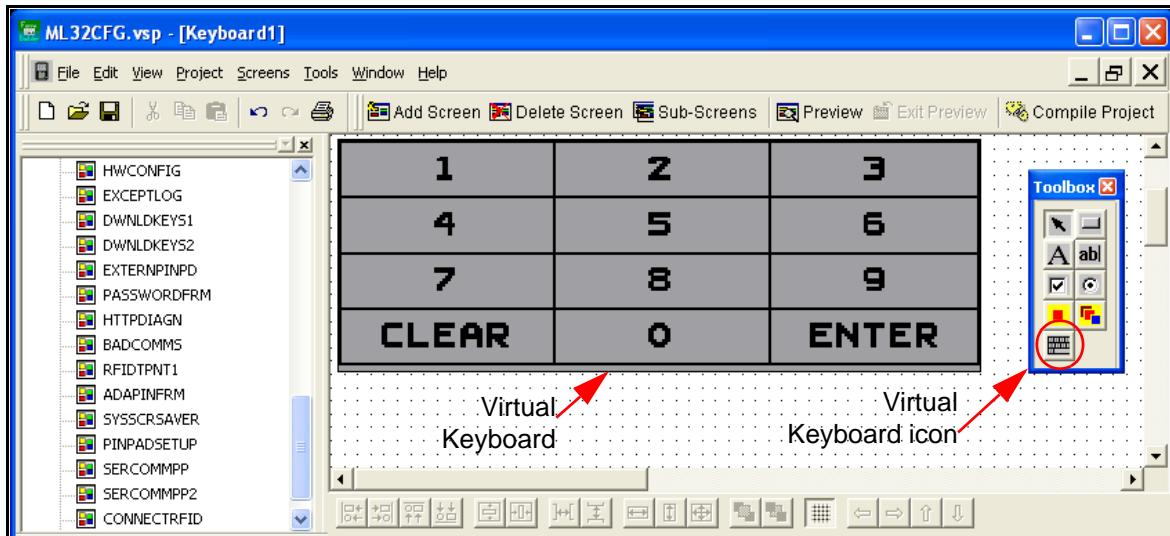

Figure 2-34 Virtual Keyboard
2. Using the Toolbox, select the **Virtual Keyboard** icon as shown in Figure 2-34.